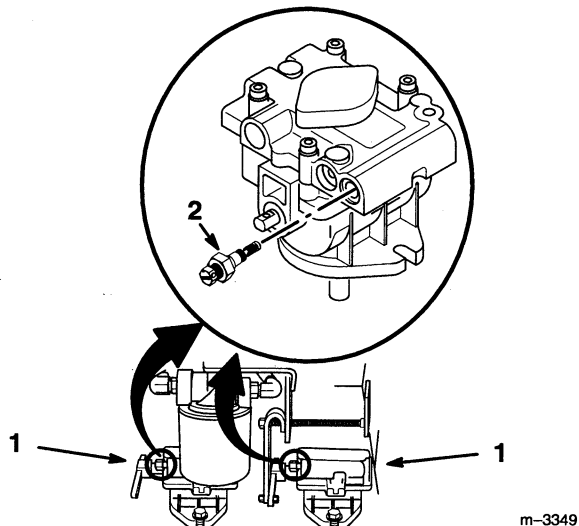

Figure 7
2. Thread new Kallevig by-pass valves into hydraulic pumps (Fig. 7).